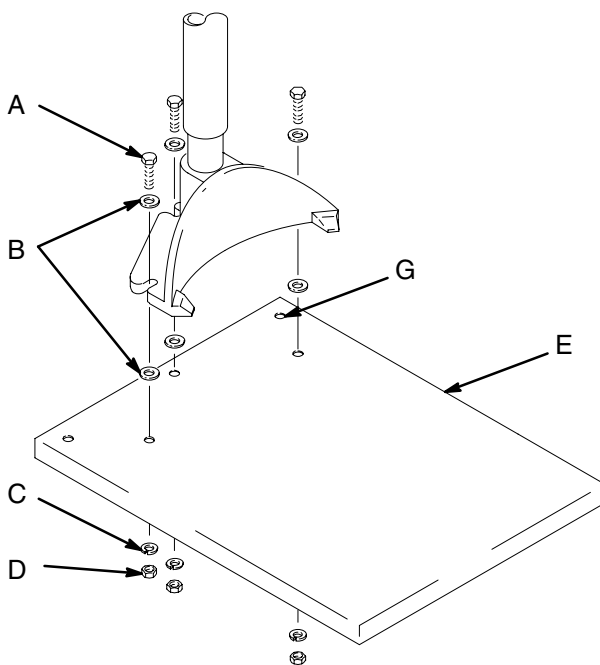

Fig. 1
Assemble the Elevator to the Base (See Fig. 1)
1. Remove the elevator clamp (34) from the elevator bracket (33).
2. Center the pump and inductor plate (8) on the base (H), straddling the elevator tube (F).
3. Tighten the screws (19) securing the clamp (34) to the bracket (33). See the Parts Drawing on page 6.
5. Anchor the unit to the floor using the mounting holes (G) in the base. See Fig 1.